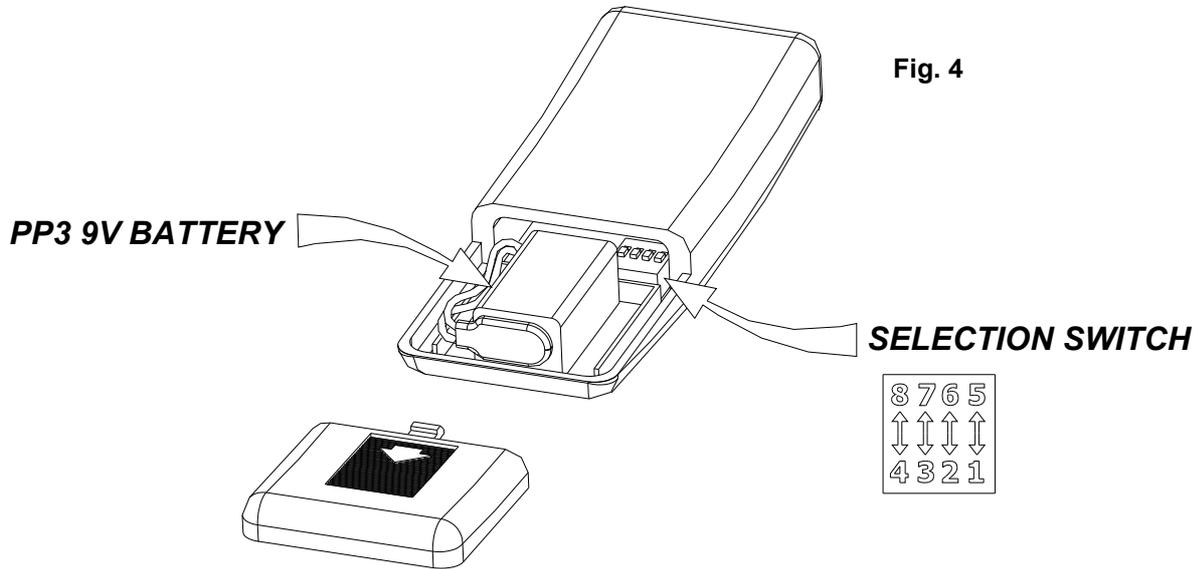

Fig. 4
- Set the transmitter selection switch to the same number sequence as used for the Multivent receiver, see Fig 4.